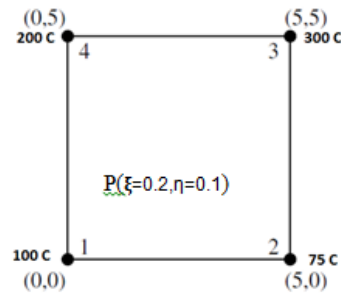

Fig 2
- Q.3B Determine the Shape functions for the four noded Isoparametric rectangular element. Compute the temperature and the heat fluxes at a location ($\xi=0.2$, $\eta=0.1$) in the element as shown in Fig.2. Dimensions are in cm. (03)